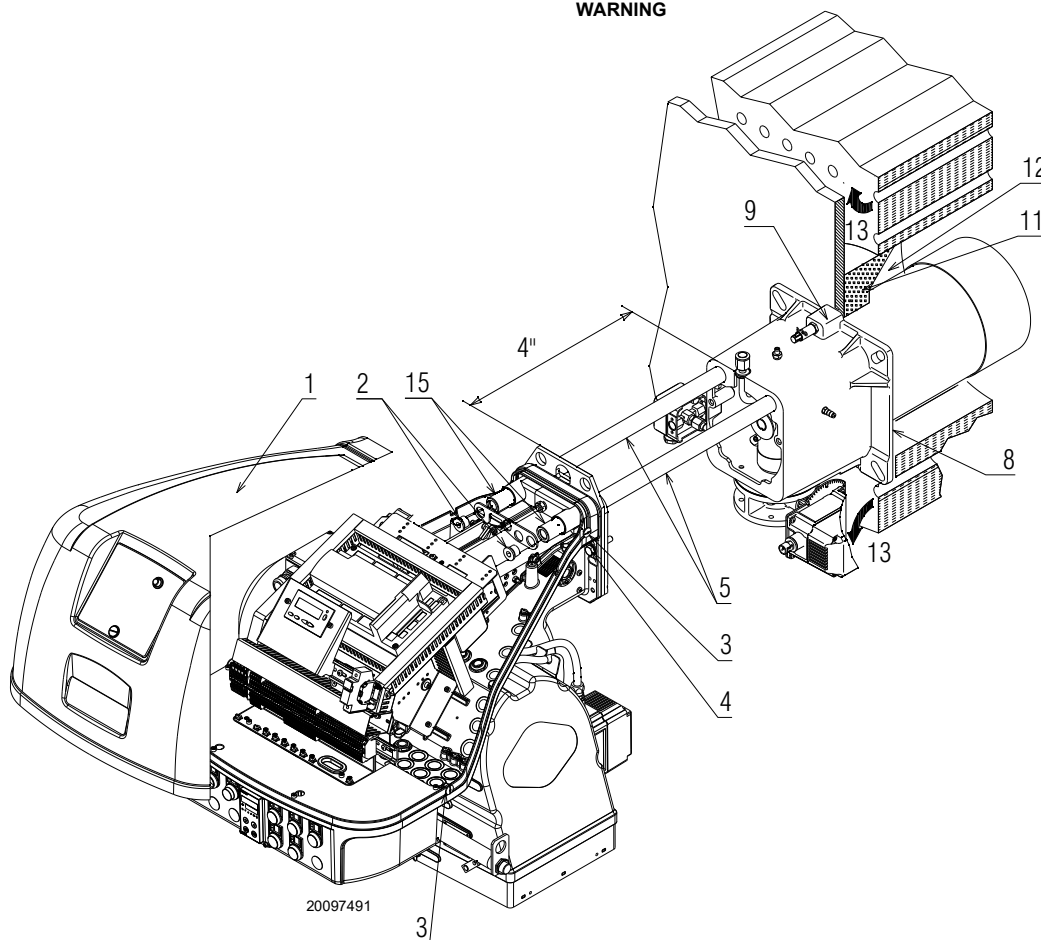

Fig. 12
For boilers with front flue passes 13)(Fig. 12) or flame inversion chambers, a protection in refractory material 11) must be inserted between the boiler refractory 12) and the blast tube 10). This protection must not compromise the extraction of the blast tube.
- › Connect the burner to the boiler, fixing the flange 9)(Fig. 12) to the boiler plate and interposing the insulating gasket 8).
- loosen the 4 screws 3)(Fig. 12) and remove the cover 1);